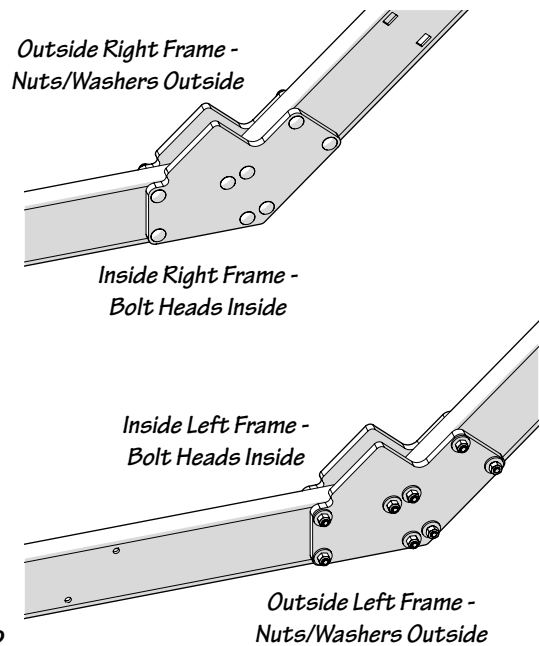

Fig. 4-2
- Place the two assembled rails side by side and lift the upper frame ends, as shown in Fig. 4-2. Double-check: The carriage bolt heads must be on the inside of the two assembled frames.